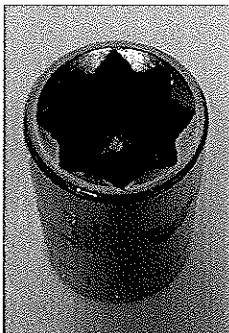

Figure 18 8-point star socket
2. Using a 1/2" 8-point star socket (FIGURE 18) and alternating from one side to the other, turn the 1/2" square drive tube to bring the room in. A 15 mm 12-point socket is an option if the 1/2" 8-point star socket is not available. Use caution, as the 15 mm 12-point socket does not fit as snug as the 1/2" 8-point socket.